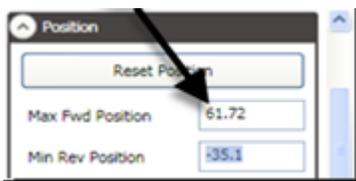

Figure 135
5. Type the **Position** value into **Max Fwd Position** field (Figure 135).